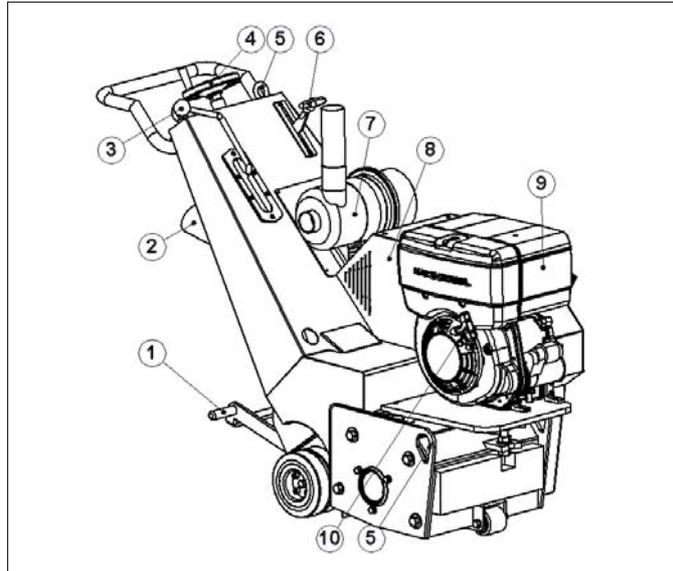

Fig. 3.1
The **Blastrac** scarifier BMP-335GHY has a quick lift (Fig. 3.1 Item 3). The scarifier can be lift with the quick lift lever without changing the working depth to transport or to remove it. Before switching on the machine, the scarifier must be lifted with quick lift in order to prevent a start or rather a run out of the motor under full load.
The working depth will be adjusted through turning the adjust wheel or handwheel (Fig. 3.1, Item.4), so that every tool may grip (scrape) correctly and you will reach the requested quality of finish. The progressively depth adjustment enables the flails to impact on the surface being treated only at the required and necessary depth. The scarifying depth must be adjust, considering the surface to be treated, so that the flailles will be unhindered thrown up through the centrifugal force and they can free turn over lateral axle. When the deep adjustment is correctly selected, the scarifier will run quiet and constant. Oval worn flailles as well as broken drum axle indicating a too "high" scarifying deth adjustment. Do not set the machine so the flails causing high vibration , this indicates not enough clearance between flail and axle.
The drive unit control lever (Fig. 3.1, Item.8) steers the drive unit device. The function of the drive unit control lever begins after adjusting the working depth of the machine with the quick lift. You should pay attention that the drive unit control lever is locked in neutral position before manipulating the quick lift.
It is possible to transport the machine without electrical power by pushing up the treadle (pos. 1, fig 3.1). The drive wheels are declutched of the drive motors now. Be sure that the floor is flat, because the machine is uncontrolled now! **It is very dangerous to drive the machine on a grade or ramp when the treadle is in upwards position!**